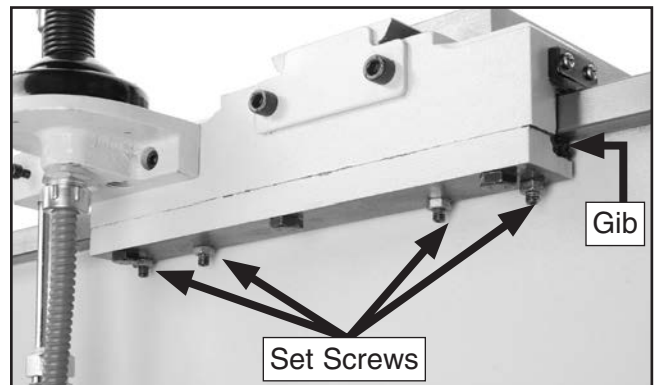

Figure 92. Saddle gib components.
The saddle gib is located on the bottom of the back edge of the slide (**Figure 92**). This gib is designed differently than the cross or compound slide gibs. Instead of being a wedge-shaped plate, it is a flat bar. The gib pressure is applied by four set screws. Hex nuts secure these set screws in place, so they will not loosen during operation.
4. Loosen the jam nuts on the four set screws shown in **Figure 92**, and adjust the set screws as follows: